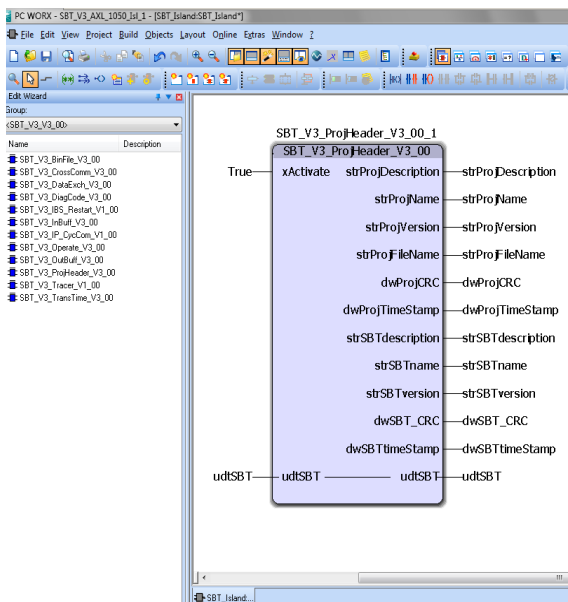

Figure 3-38 “SBT_V3_ProjHeader_V3_00” function block
- Connect the function block as shown in Figure 3-38.